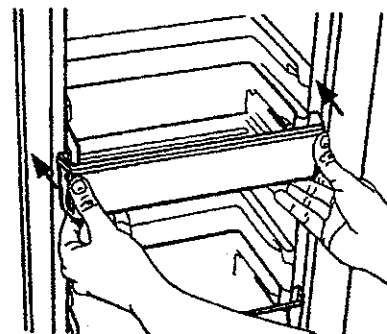

Figure 42
- g. To reinstall, use one hand at each side of bucket. Slide bucket into grooves on door. Push gently with thumbs until tabs snap and lock into place. See Figure 42.